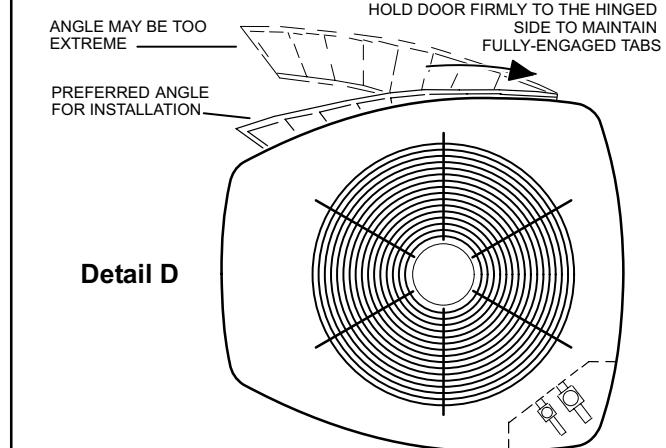

FIGURE 1
1. Remove 2 screws, allowing the panel to swing open slightly (see figure 1).
2. **Hold the panel firmly throughout this procedure.** Rotate bottom corner of panel away from hinge corner post until lower 3 tabs clear the slots (see figure 1, Detail B).
3. Move panel down until lip of upper tab clears the top slot in corner post (see figure 1, Detail A).
Position and Install Panel—Position the panel almost parallel with the unit (figure 1, Detail D) with the "screw side" as close to the unit as possible. Then, in a continuous motion:
Slightly rotate and guide the lip of top tab inward (figure 1, Details A and C); then upward into the top slot of the hinge corner post.